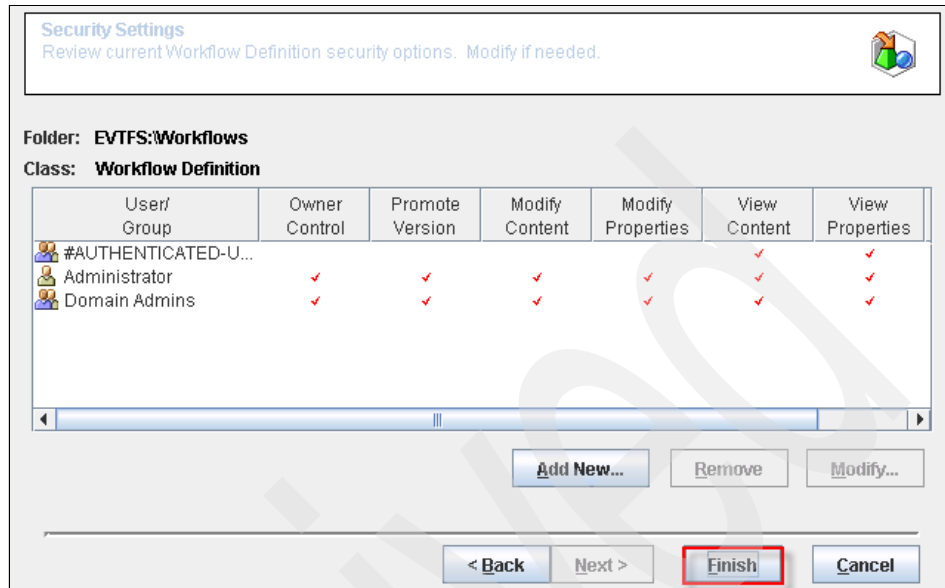

Figure 7-55 Security Settings panel
d. In the Security Settings panel (Figure 7-55), click **Finish**.